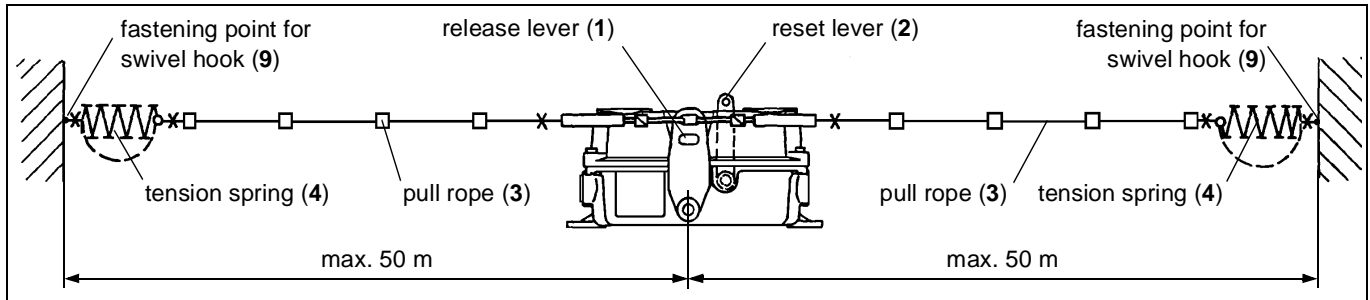

Fig. 3-1: Function
The pull rope switch release lever (1) is operated by a pull rope (3) which is mounted along the conveyor system (s. fig. 3-1).